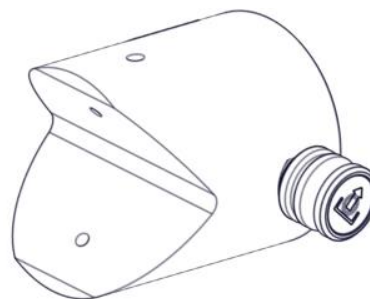

Figure 1-6. V-Base
c. **V-Base.** The V-Base (Figure 1-6) is a 3" (7.6 cm) diameter cylinder base with a 90° "V" machined approximately 1" (2.5 cm) deep at its center and two crossed drilled holes for securing to a corner or an edge. The V-Base is primarily used to stabilize anything with a corner or angle at the point of support.